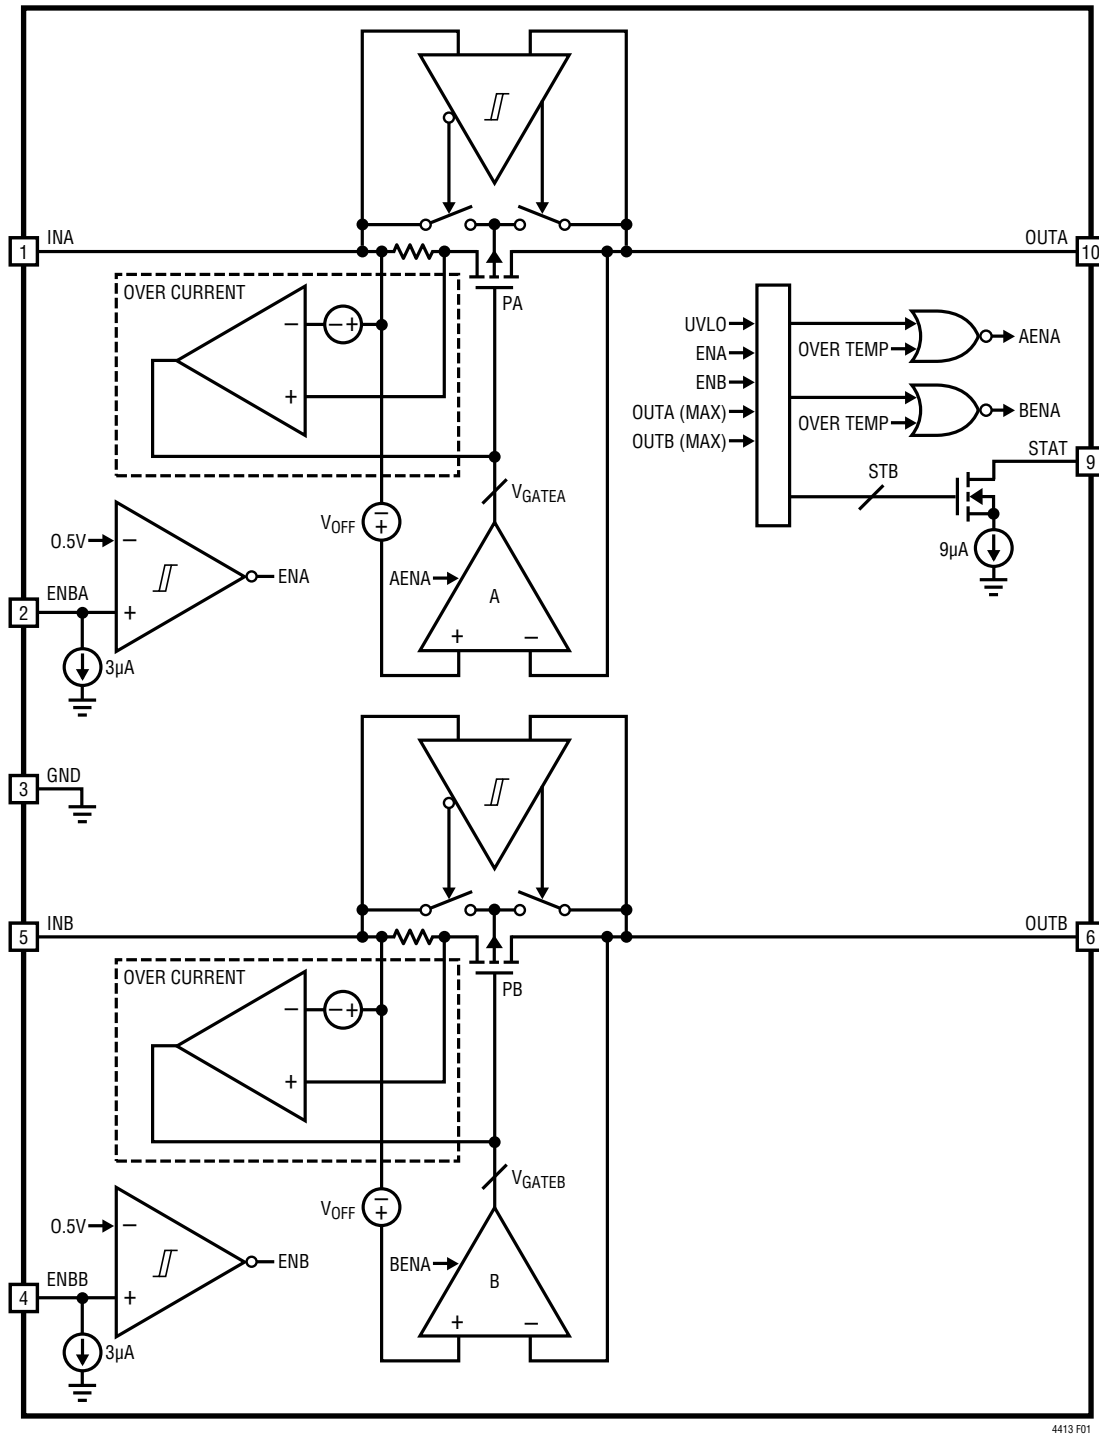
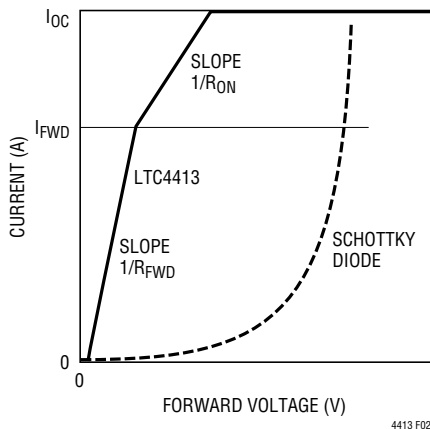

Figure 1
Figure 2
The LTC4413 is described with the aid of the Block Diagram (Figure 1). Operation begins when the power source at V_{INA} or V_{INB} rises above the undervoltage lockout (UVLO) voltage of 2.4V and either of the ENBA or ENBB control pins is low. If only the voltage at the V_{INA} pin is present, the power source to the LTC4413 (V_{DD}) will be supplied from the V_{INA} pin. The amplifier (A) pulls a current proportional to the difference between V_{INA} and V_{OUTA} from the gate (V_{GATEA}) of the internal PFET (PA), driving this gate voltage below V_{INA} . This turns on PA. As V_{OUTA} is pulled up to a forward voltage drop (V_{FWD}) of 20mV below V_{INA} , the LTC4413 regulates V_{GATEA} to maintain the small forward voltage drop. The system is now in forward regulation and the load at V_{OUTA} is powered from the supply at V_{INA} . As the load current varies, V_{GATEA} is controlled to maintain V_{FWD} until the load current exceeds the transistor's (PA) ability to deliver the current as V_{GATEA} approaches GND. At this point the PFET behaves as a fixed resistor with resistance R_{ON} , whereby the forward voltage increases slightly with increased load current. As the magnitude of I_{OUT} increases further (such that $I_{LOAD} > I_{OC}$), the LTC4413 fixes the load current to the constant value I_{OC} to protect the device. The characteristics for parameters R_{FWD} , R_{ON} , V_{FWD} and I_{OC} are specified with the aid of Figure 2, illustrating the LTC4413 forward voltage drop versus that of a Schottky diode.